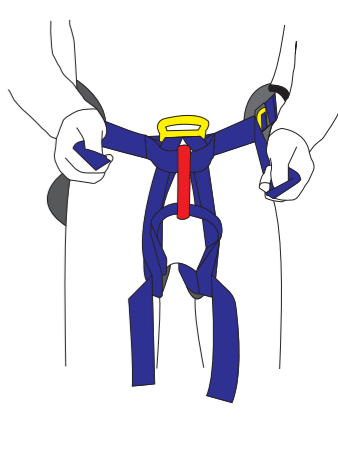

Fig 5
5. Fasten the leg loops snugly around the thighs (Fig 5), following the relevant buckle instruction diagram.